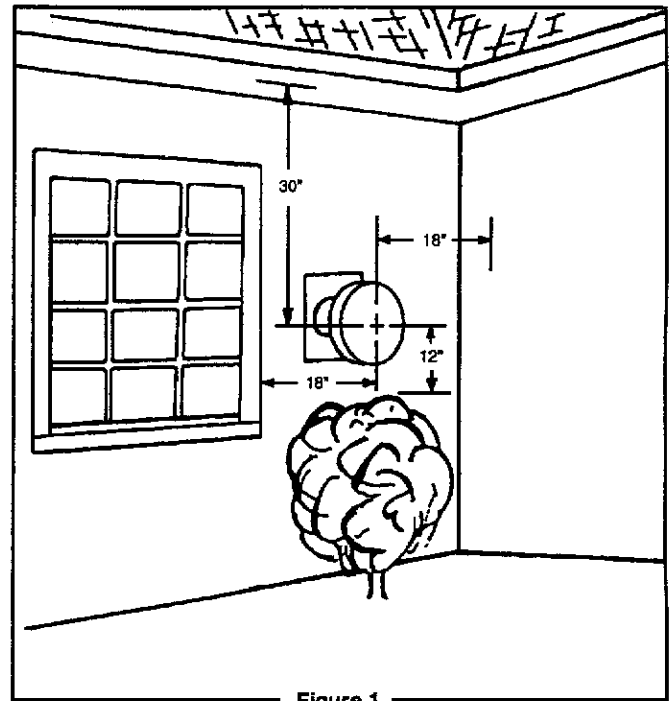

Figure 1
1. This is a direct-vent wall furnace. It must be installed on an outside wall for proper venting of flue gases (Figure 1).
3. Check the clearances needed from the furnace and vent (Figure 1 and 2). You must place the furnace where you will have no less than the clearances shown.
5. The furnace will not work if anything stops free entry of fresh air into the vent, or free flow of flue gases from it. Be sure the center of the vent cap is at least 12 inches above ground level or shrubs (Figure 1). Make sure shrubs are kept trimmed. It must also be at least 18 inches from any wall or other blockage and 30 inches below any overhang.
Using a window, door or wall corner for reference, measure to find where the vent will be on the outside wall. Check to be sure of proper clearances (Figures 1 and 2). If necessary, relocate for proper clearances.